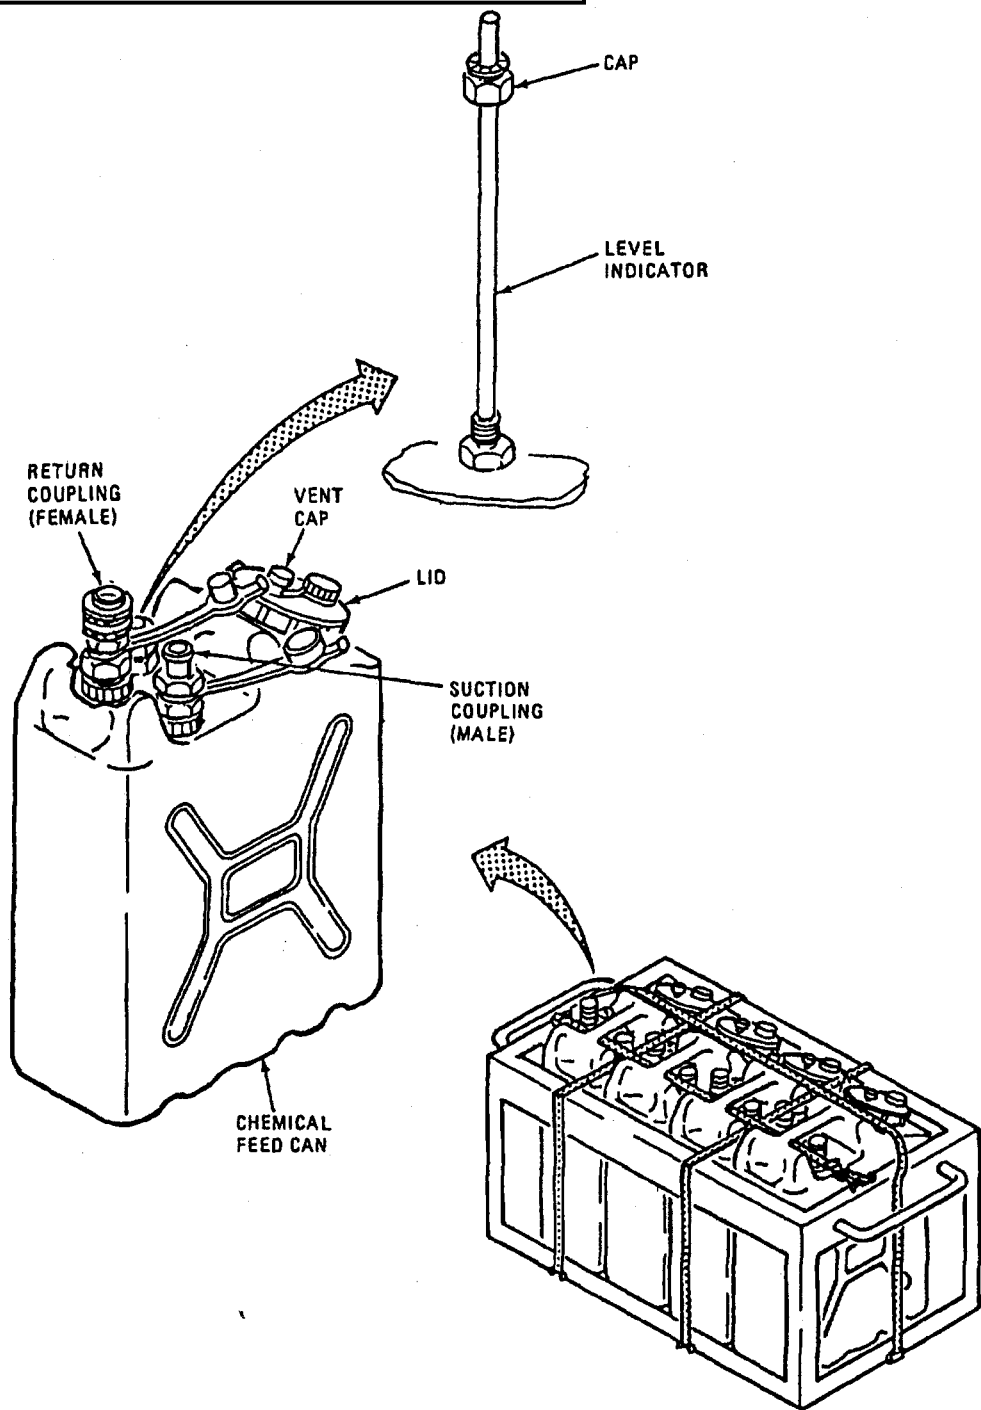
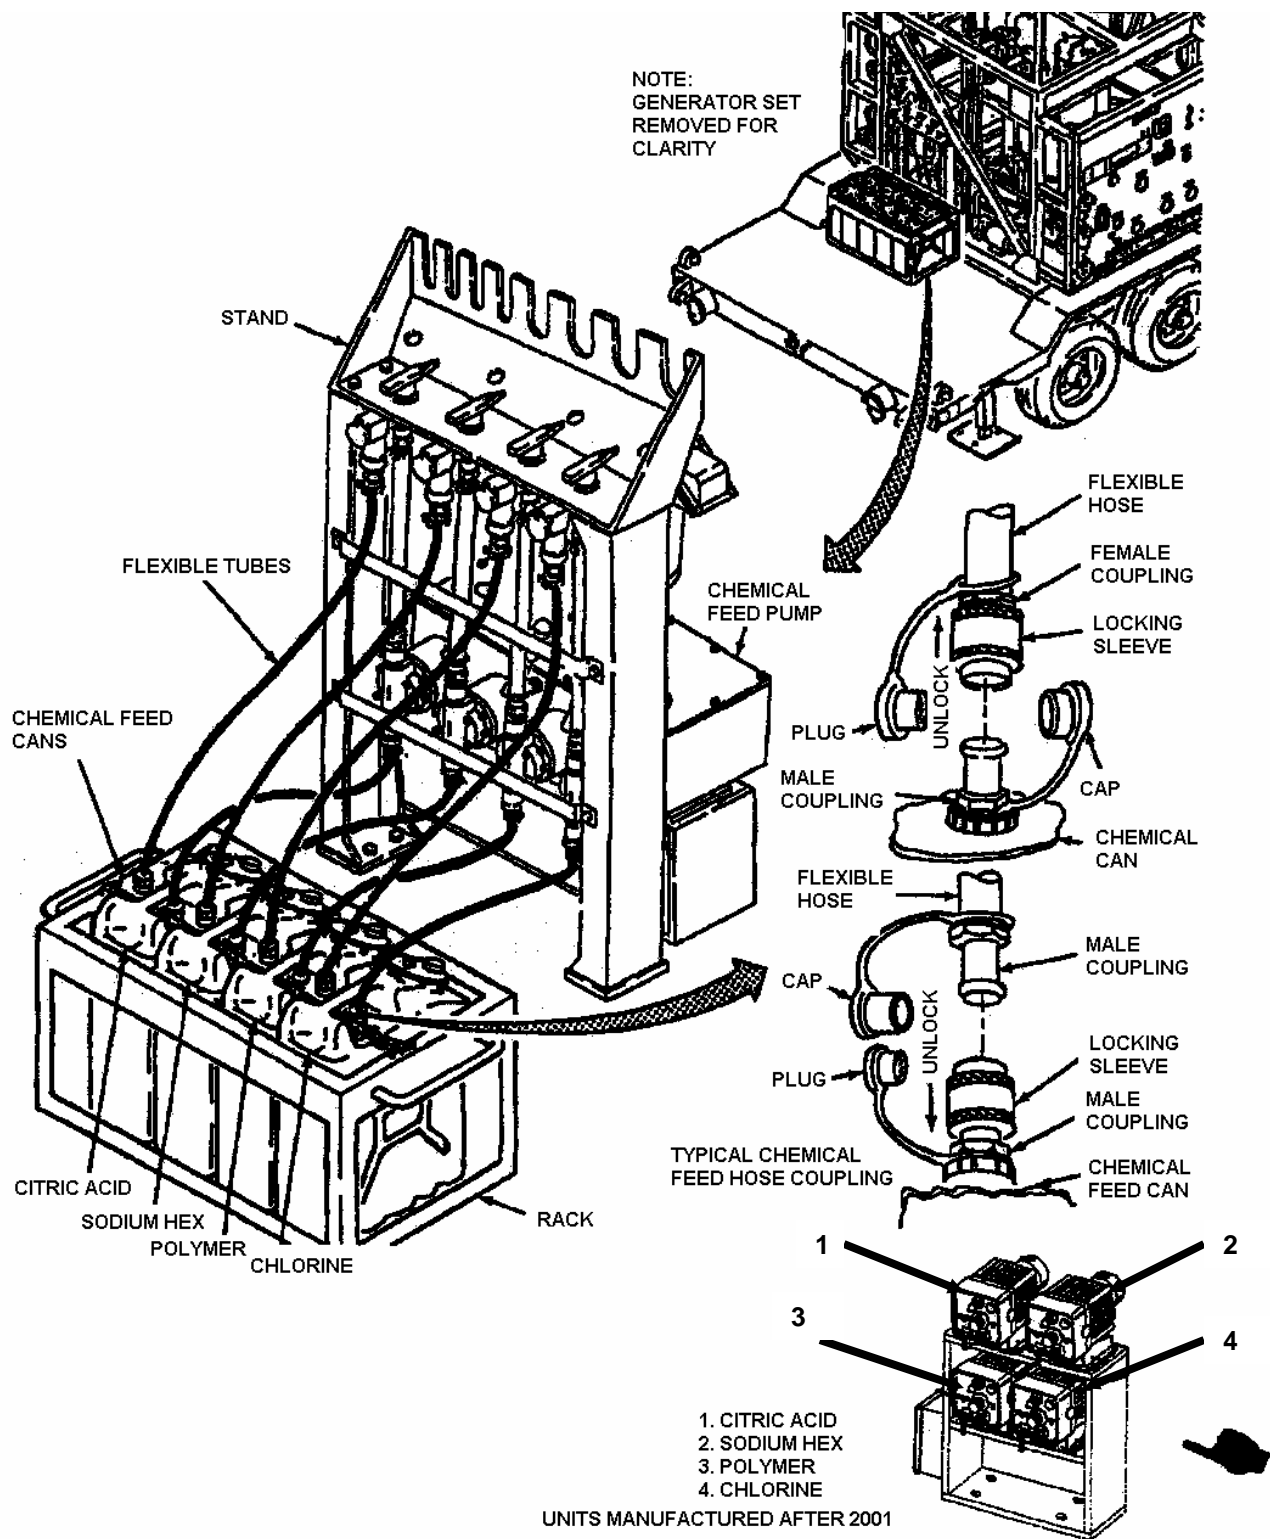

Figure 2-41. Chemical Feed Can Indicator.
Figure 2-42. Chemical Feed Can Connections.
- (9) Check chemical feed can solution levels by loosening the cap on the indicator, and then gently letting go. Indicators should remain raised approximately 1/4 the length of the indicator (1/4 full). Refer to figure 2-41.
- (10) Make sure lids are installed and vents are open.
- t. Connect Chemical Feed Cans. Refer to figure 2-42. Connect chemical feed suction and return tubes to chemical feed cans as follows:
- (1) Position chemical feed cans and rack next to stand.
- (2) Connect flexible tubes with blue sleeve to POLYMER chemical feed can as follows: